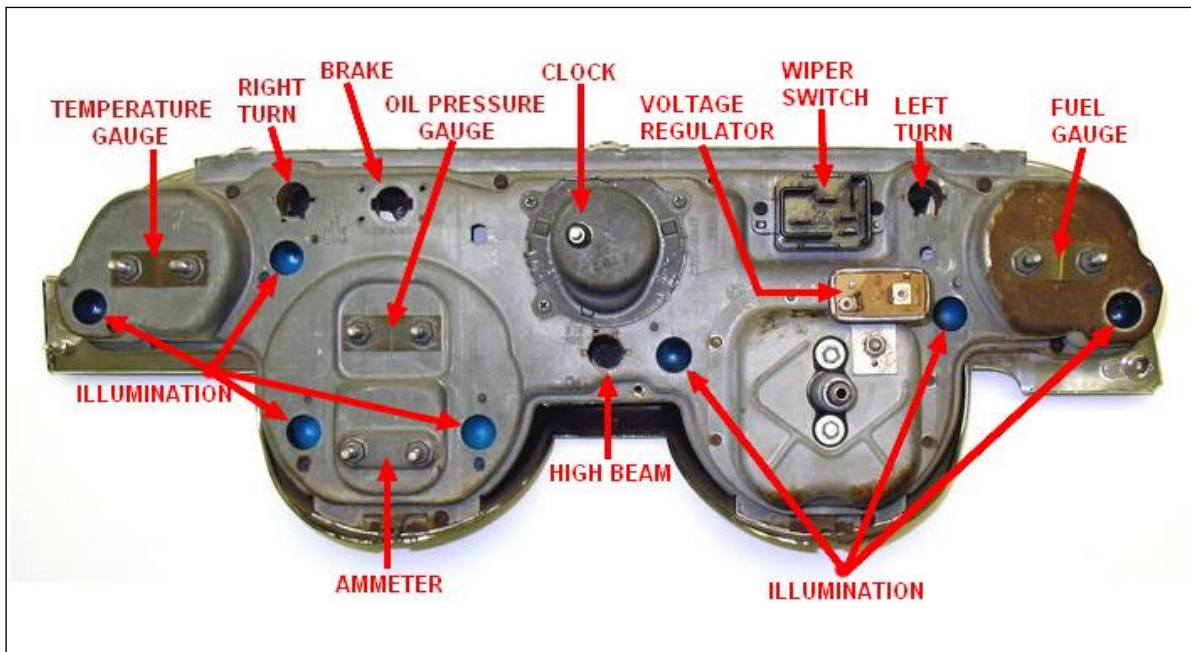

Figure 7-18 Gauge Cluster 1967 Mustang
- 7.10.2** With the Gauge Cluster positioned as in **Figure 7-18** and the harness completely installed, the 15 way connector on the Cluster Harness will be directly above the two terminals for the fuel gauge.
- 7.10.3** The illumination wires are (Blue/Red) and (Blk). Each of the illumination light sockets has one of each of these wires. There are a total of seven of these light sockets. Lay the harness over the cluster and route and install each of the illumination sockets. **See Figure 7-18.**